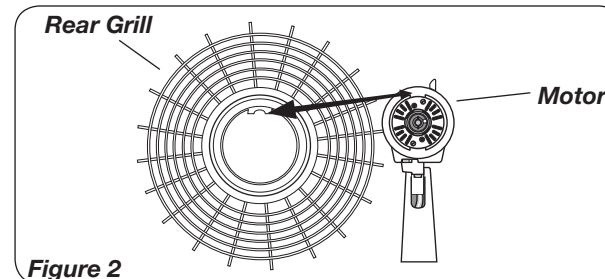

Figure 2
2. Align tab of *Rear Grill* with groove on top of front *Motor* cover. (Figure 2)